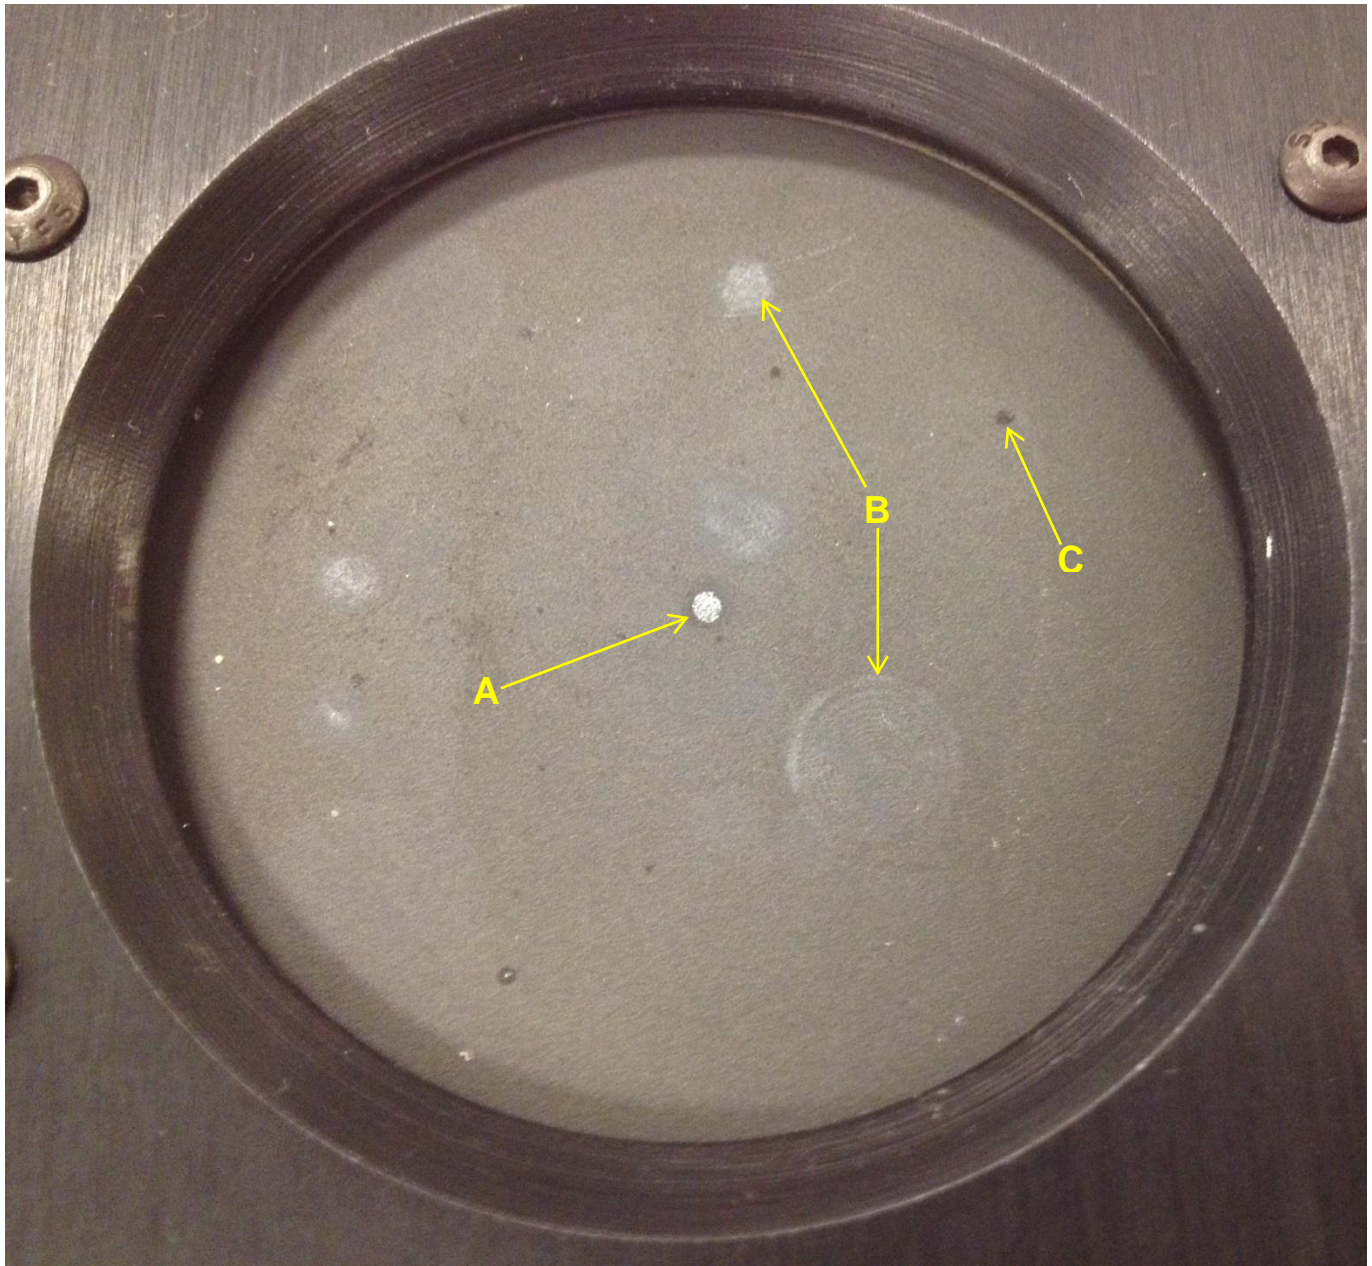

Figure 5: Severe Thermopile Damage Caused by Too High of a Power Density
- e. Figure 5: Severe Thermopile Damage Caused by Too High of a Power Density